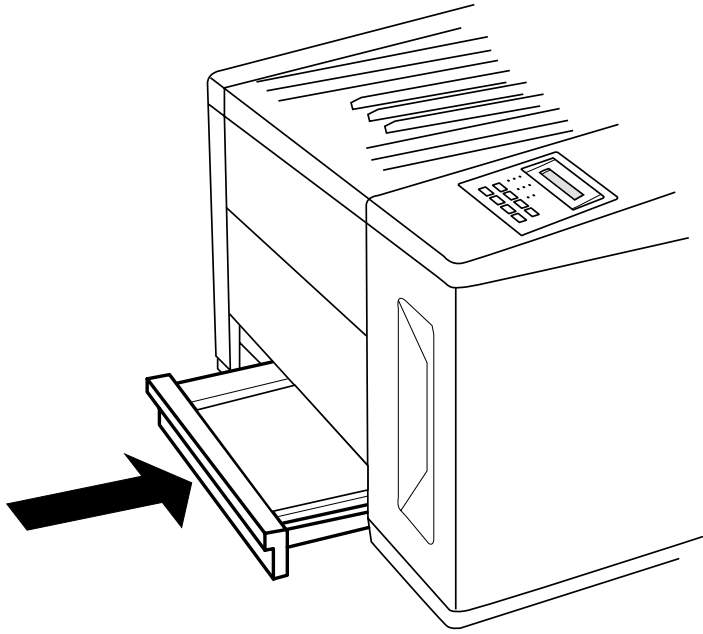

Fig. 8.9 *Slide the cassette into the printer*
6. Slide the envelope cassette into the printer (fig. 8.9).